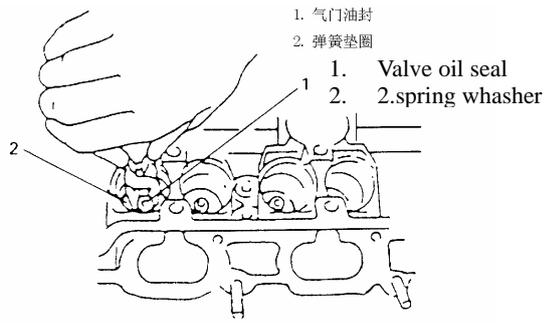

Fig. 4-119
- 6) Remove valve oil seal from valve guide, then take down valve spring gasket as shown in Fig 4-119.